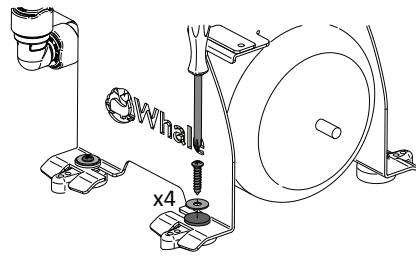
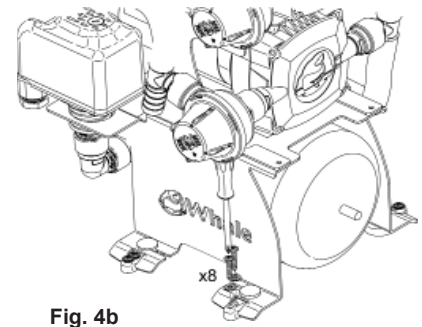

Fig. 4a
Fig. 4b
- Step 3** Use stainless steel screws and washers to secure the kit to a solid surface. Four screws and washers can be used through the centre of the feet (see Fig. 4a), or 8 screws and washers as shown in Fig 4b.
Figure 4a and 4b Securing Kit